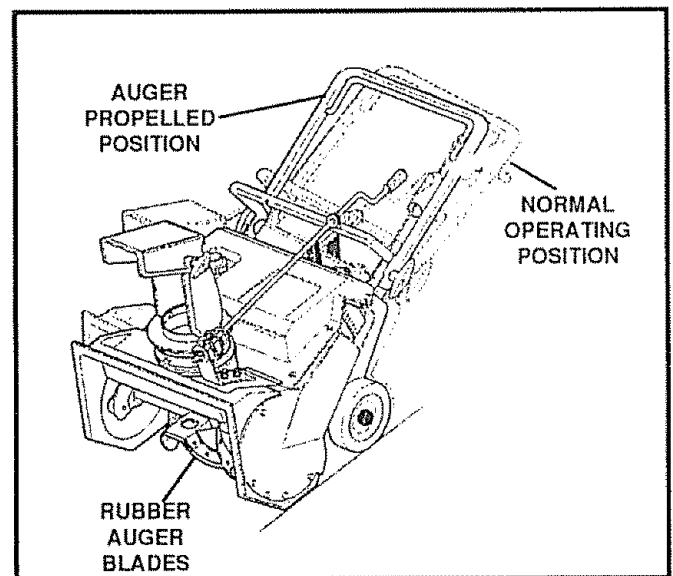

FIG. 4
- To propel forward, raise the handle to allow the rubber auger blades to contact the ground (See Fig 4).